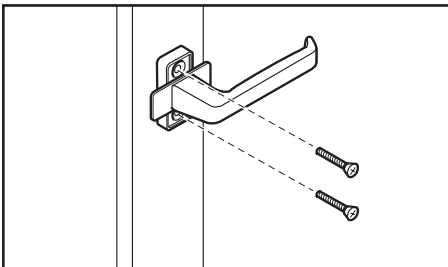

Figure 2-5. Where to install the mounting screws
- 1.4. Lock position: rotate the Euro-Handle to the horizontal position (Note: The handle should be pointing towards the hinge side of the sash). This gives you access to both of the screw holes. Insert the screws that came with the handle and tighten them. See fig. 2-5. Go to step 2.7.
- 1.6. Insert the screws that came with the handle and tighten them. See fig. 2-5.